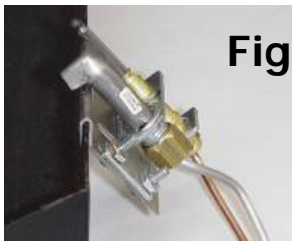

Fig 1
Step 5) Very carefully, bend aluminum pilot gas supply line see (figure 1) around and screw into port on top (towards the back) of the valve. **Be careful not to crimp tubing.**
Assemble pilot to mounting bracket with two screws and nuts supplied in the parts bag (as shown in Fig 1). The bracket is slotted allowing you to adjust the pilot up and down. We recommend that the flame just clear the top of the burner pan